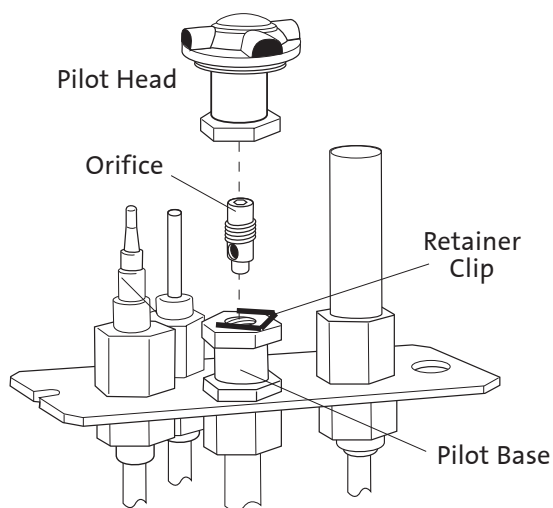

Figure 16. Pilot orifice removal and replacement.
11. **CHANGE THE PILOT ORIFICE: From within the firebox, remove the Pilot Head by pulling it straight up from the pilot base.** See fig. 16. Using the 4 mm hex key included with the kit, unscrew the pilot orifice (counterclockwise). Replace with the appropriate orifice: